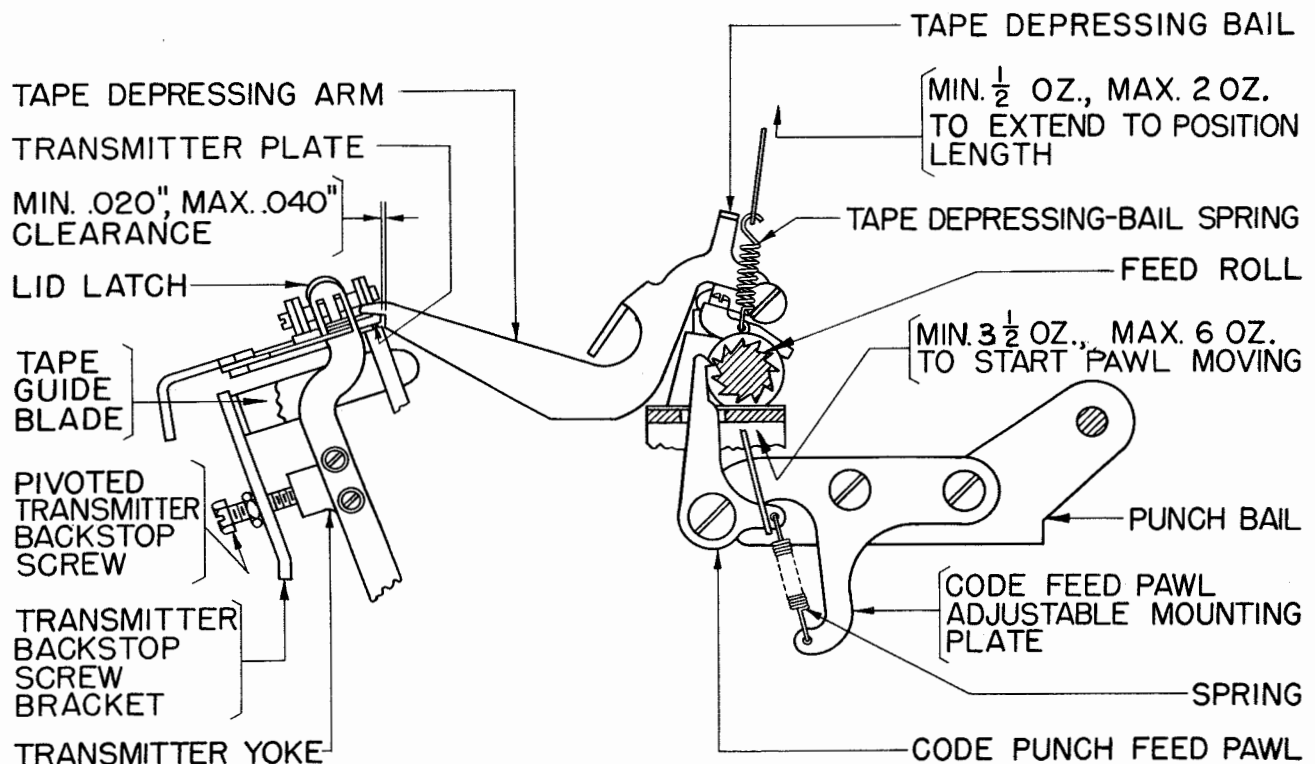

Figure 48
2.94 Code-punch Feed-pawl Spring: It shall require a pull as indicated in Figure 48 to start the pawl moving away from the feed-roll ratchet-wheel.
2.95 Tape-depressing-bail Spring: It shall require a pull as indicated in Figure 48 to extend the spring to position length with the tape-depressing bail resting against the transmitter plate.
With the transmitter lid closed and latched, the tape-depressing arm, which rides on the pivoted transmitter when the transmitter is not in its left-hand (latched) position, shall pass midway between the lid-latch spring and the locating stud of the transmitter lid. See Figure 48.
There shall be a clearance as indicated in Figure 48 between the latch on the tape-depressing arm and the adjacent latching edge on the transmitter plate with the pivoted transmitter positioned against its backstop screw and the latch on the tape-depressing bail engaged with the transmitter.
2.118 Tape-guide Blades shall pass between the tape-out and the No. 1 sensing fingers and between the No. 4 and 5 sensing fingers without touching the sensing fingers or the underside of the transmitter frame, as the transmitter pivots from right to left. See Figure 48.